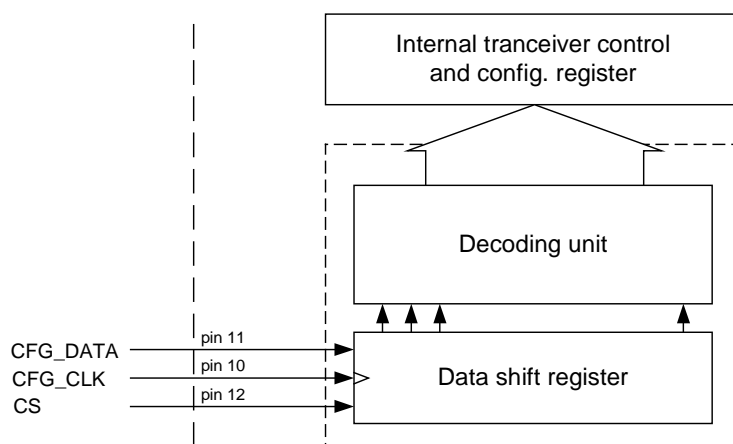

Figure 6. Serial Peripheral Interface (SPI) for chip configuration
Chip select (CS) is used to enable the transceiver configuration mode. Figure 6 illustrates the serial interface block diagram.